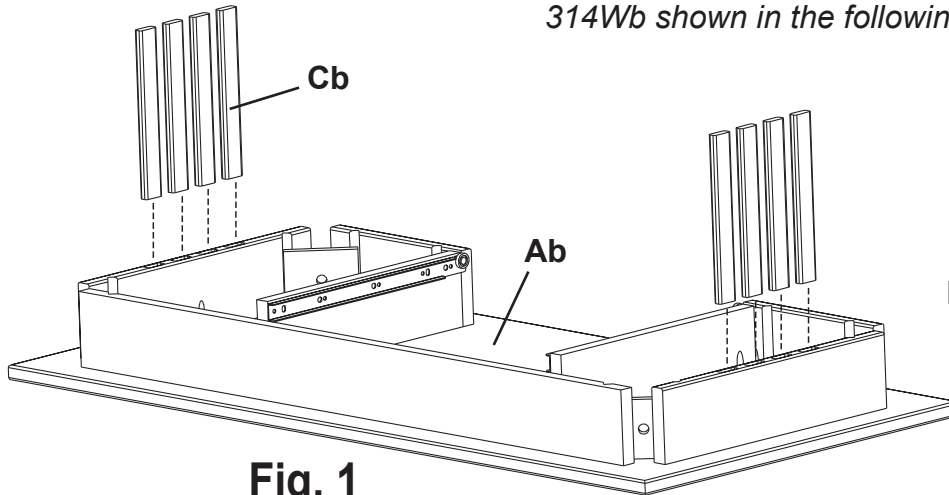

Fig. 1
1. Place the Top Assembly (Ab) upside-down on a clean, protected surface. Gently tap the Slats (Cb) into place with a mallet or padded hammer. **DO NOT GLUE THE SLATS.** See Figure 1.